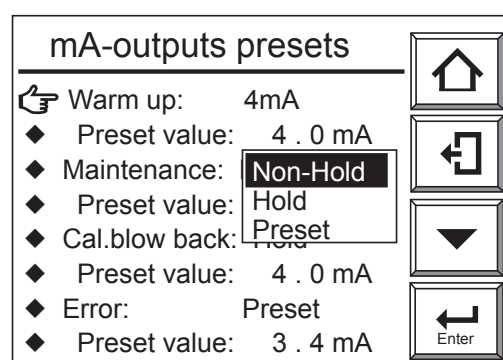
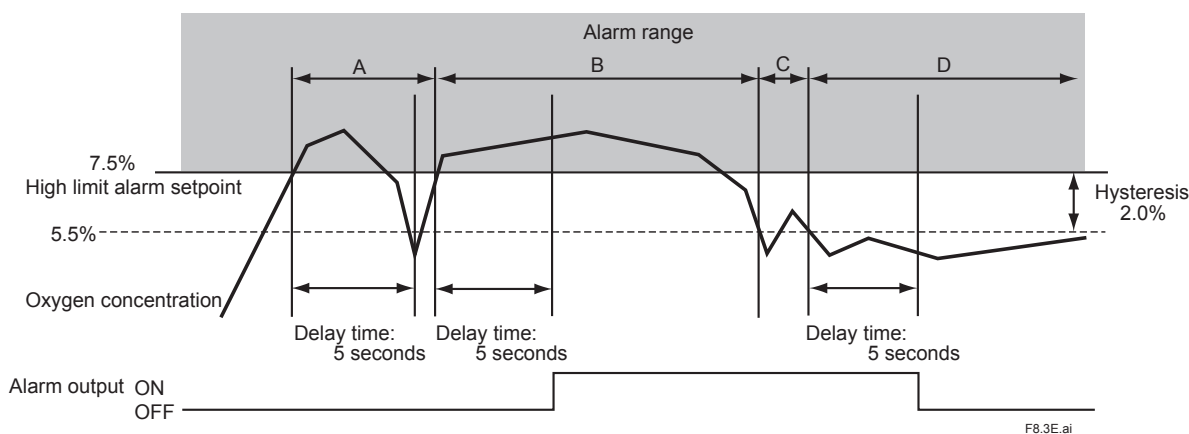

Figure 8.2 Selecting Maintenance
Figure 8.3 Alarm Output Action
- (1) Press the [Setup] key in the Basic panel display to display the Execution/Setup display. Then select “Commissioning” in the Execution/Setup display. Next, select the “mA-output setup” and then the “mA-outputs presets” display as shown in Figure 8.2.
- (2) From this display (Fig. 8.2), select the desired display. Figure 8.3 shows an example of selecting “Maintenance”. Select the desired output status.
- (3) If a preset value is selected, set the corresponding output current. If you select a preset value just below Maintenance on the screen, the numeric-data entry display will appear. Enter the current value you want. To set 10 mA, type in 010 and press the [Enter] key to complete the setting. The setting range is from 2.4 to 21.6 mA.
To avoid this, set the alarm delay and hysteresis for alarm canceling under the alarm output conditions, as Figure 8.3 shows.
Refer to Figure 8.3 for any further alarm output actions. The delayed time and hysteresis settings are common to all alarm points.
In the example in Figure 8.3, the high limit alarm point is set to 7.5 vol%O₂, the delay time is set to five seconds, and hysteresis is set to 2 vol%O₂.